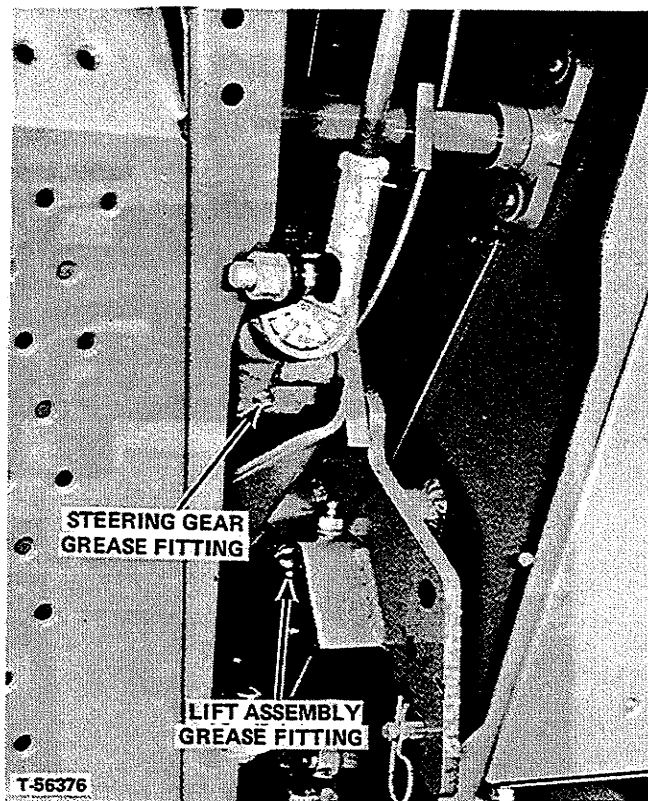

FIGURE 10 - View From Under Tractor
- 1 fitting on steering gear under tractor - (Figure 10)
- 1 fitting on lift assembly under tractor - (Figure 10)